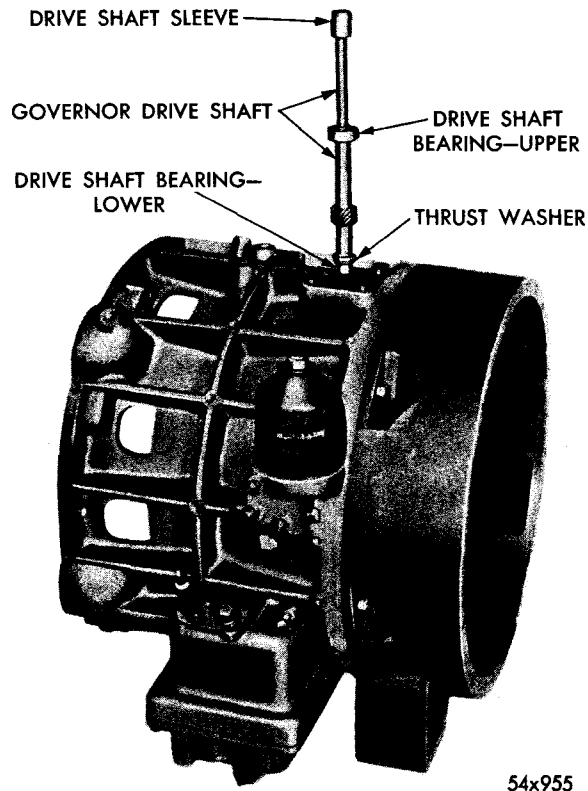

Fig. 25—Installing or Removing the Governor Drive Shaft
- (12) Install the lower needle bearing into the main Converter Housing, and install the Governor drive shaft assembly, as shown in Figure 25, seating the upper bearing in the bearing recess.
- (13) Rotate the Governor shaft, and see that it operates freely.